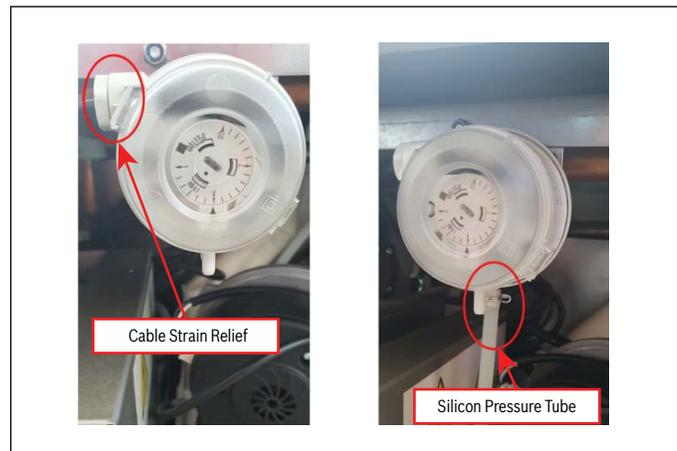

Figure 11
16. Tighten cable strain relief and attach the silicon pressure tube to the inlet (+) on the rear of the pressure switch (see Figure 11 below).